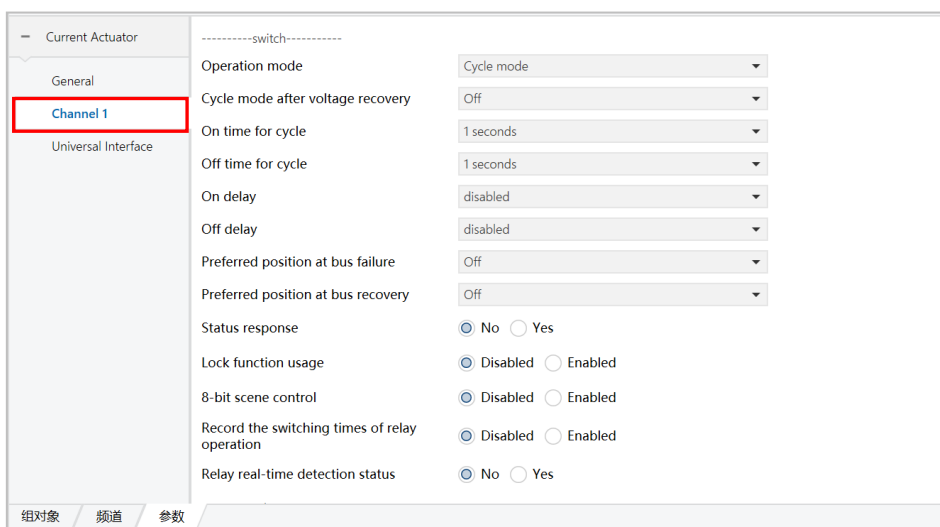

Figure 6.1.3
(3) Click the options in the red box above, set the parameters of each circuit, the following Channel 1 as an example, as shown in Figure 6.1.3